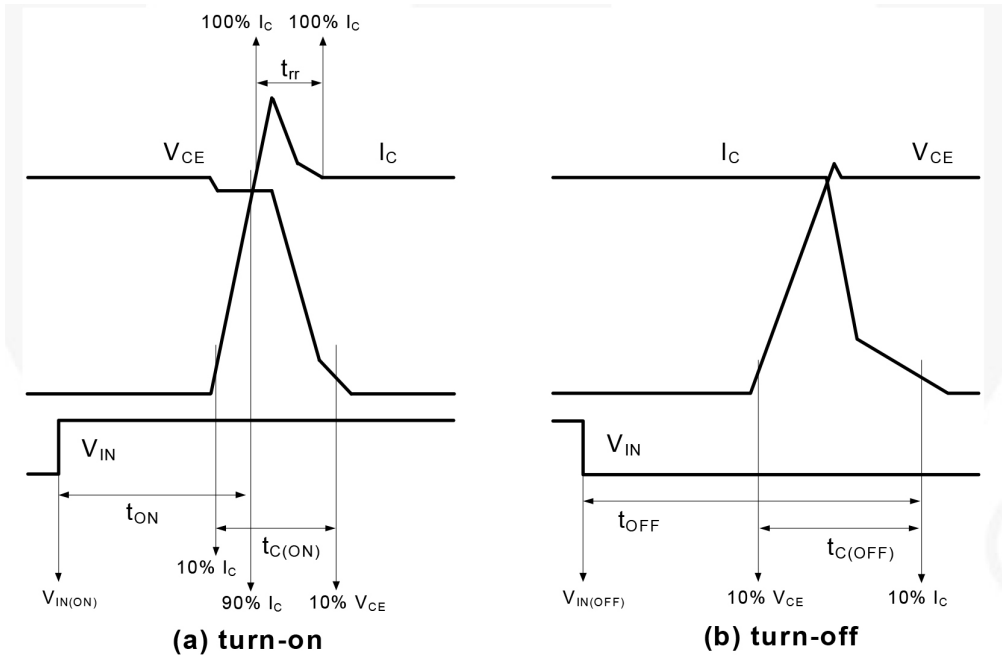

Figure 3. Switching Time Definition
6.  $t_{ON}$  and  $t_{OFF}$  include the propagation delay of the internal drive IC.  $t_{C(ON)}$  and  $t_{C(OFF)}$  are the switching times of IGBT under the given gate-driving condition internally. For the detailed information, please see Figure 3.